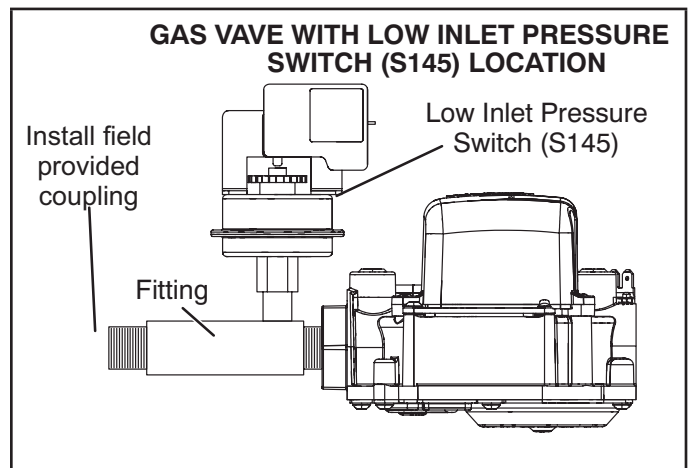

Figure 1
- 1 - Thread provided fitting to gas valve inlet until hand tight. Using properly sized wrench, tighten fitting 2 to 3 full turns being careful to position the side port to allow clearance for the pressure switch and harness. See figure 1.
NOTE - Some installations may require the pressure switch and fitting assembly to be positioned differently than shown in figure 1.
- 2 - Install a field supplied pipe coupling to the fitting. See figure 1.